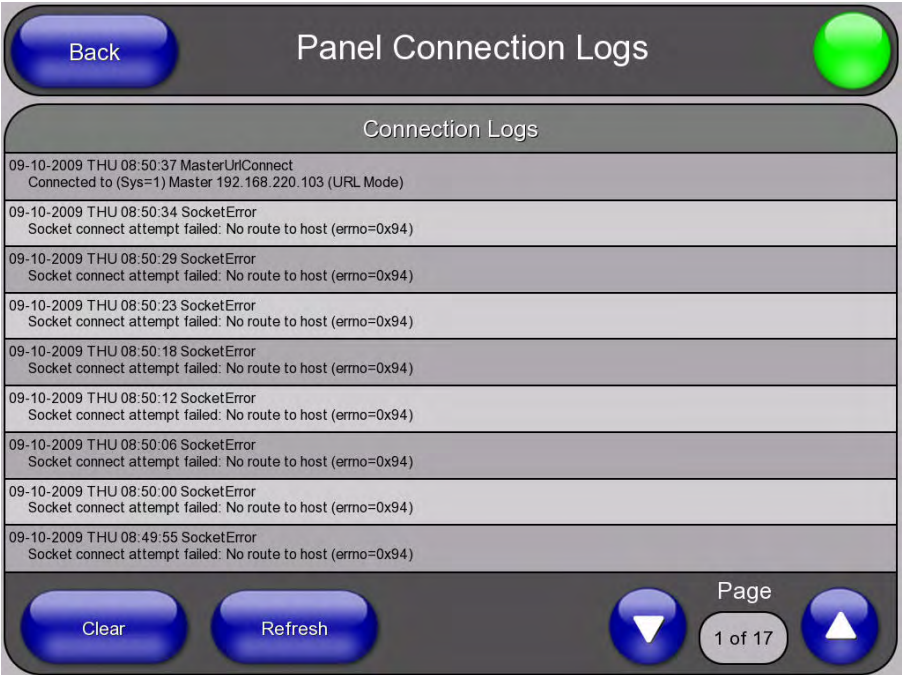

FIG. 77 Protected Setup (Tools) - Panel Connection Logs Page
- **Panel Logs** - Press to access the *Panel Connection Logs* page (FIG. 77)
Select **Panel Logs** from the *Tools* slider (see FIG. 76) to access the *Panel Connection Logs Page* (FIG. 77):